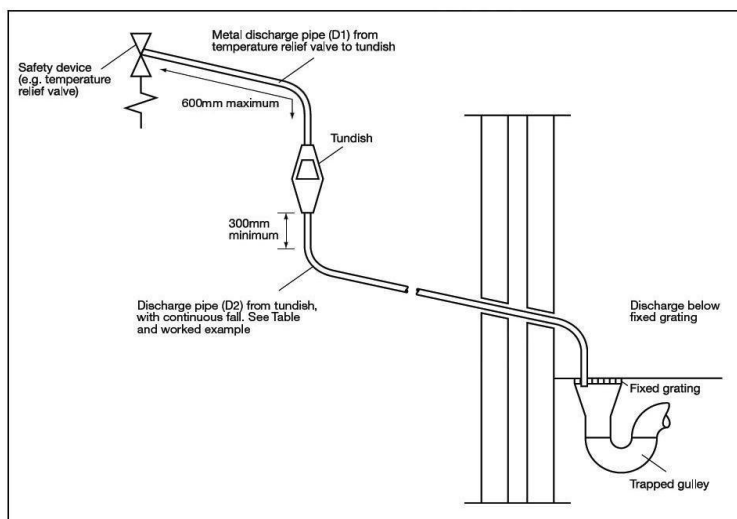

Figure 3: Typical discharge pipe arrangement
The discharge pipe D2 should be at least one pipe size larger than the nominal outlet size of the safety device unless its total equivalent hydraulic resistance exceeds that of a straight pipe 9m long, i.e. for discharge pipes between 9m and 18m the equivalent resistance length should be at least two sizes larger than the nominal outlet size of the safety device; between 18 and 27m at least 3 sizes larger, and so on; bends must be taken into account in calculating the flow resistance. See Figure 3, Table 4 and the worked example.
- The tundish should be vertical, located in the same space as the unvented hot water storage system and be fitted as close as possible to, and lower than, the safety device, with no more than 600mm of pipe between the valve outlet and the tundish (see Figure 3).